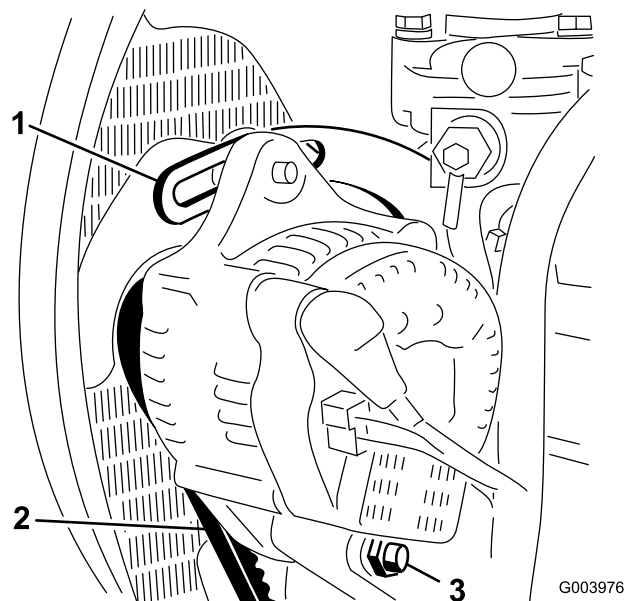

Figure 63
2. Check the tension of the alternator belt by depressing it (Figure 63) midway between the alternator and the crankshaft pulleys with 10 kg (22 lb) of force.
3. Loosen the bolt securing the brace to the engine (Figure 63), the bolt securing the alternator to the brace and the pivot bolt.